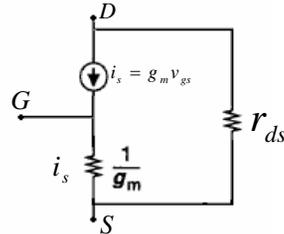
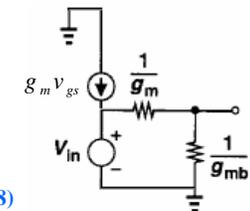

Fig 1.21
Fig 1.22
**Description:** Consider the MOS T-Model (Fig 1.21)
So the AC small signal model of the circuit is really as shown in Fig 1.20b. Also the model is shown in Fig 1.22 (without  $r_{ds}$ )
**Note:** If  $V_{in} = 0 \Rightarrow V_{gs} = 0$  for  $V_{in} \neq 0$  we can calculate  $V_s$  as a voltage divider of  $1/g_m$  or  $1/g_{mb}$ . According to T-Model we know that in any case  $V_s$  is as follows (Fig 1.22):
It should be noted although we draw both voltage source, and current source, in T-Model in Fig 1.22 the current going through is always  $1/g_m$  equal to as shown in Fig 1.21.